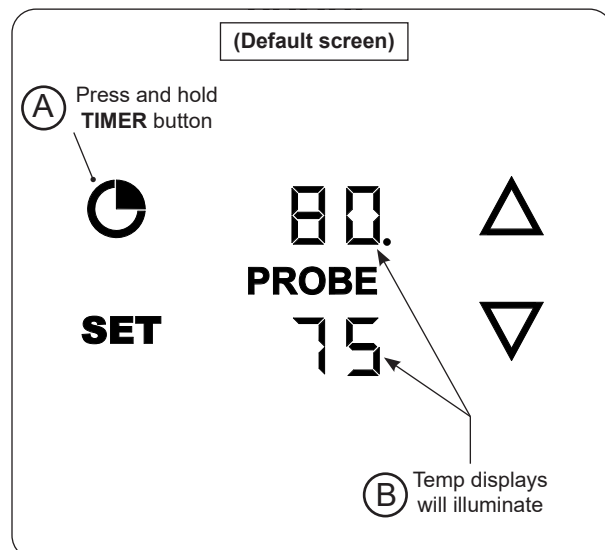

Fig. 29-1 Turn on thermometer/Thermostat
3. Press and hold the **TIMER** button (Fig. 29-1, A) until the remainder of the displays illuminate (Fig. 29-1, B). This is the “**default screen**”. The default screen displays your temperatures. The top display is the grilling temperature, and the bottom display is the meat probe temperature (if plugged in).